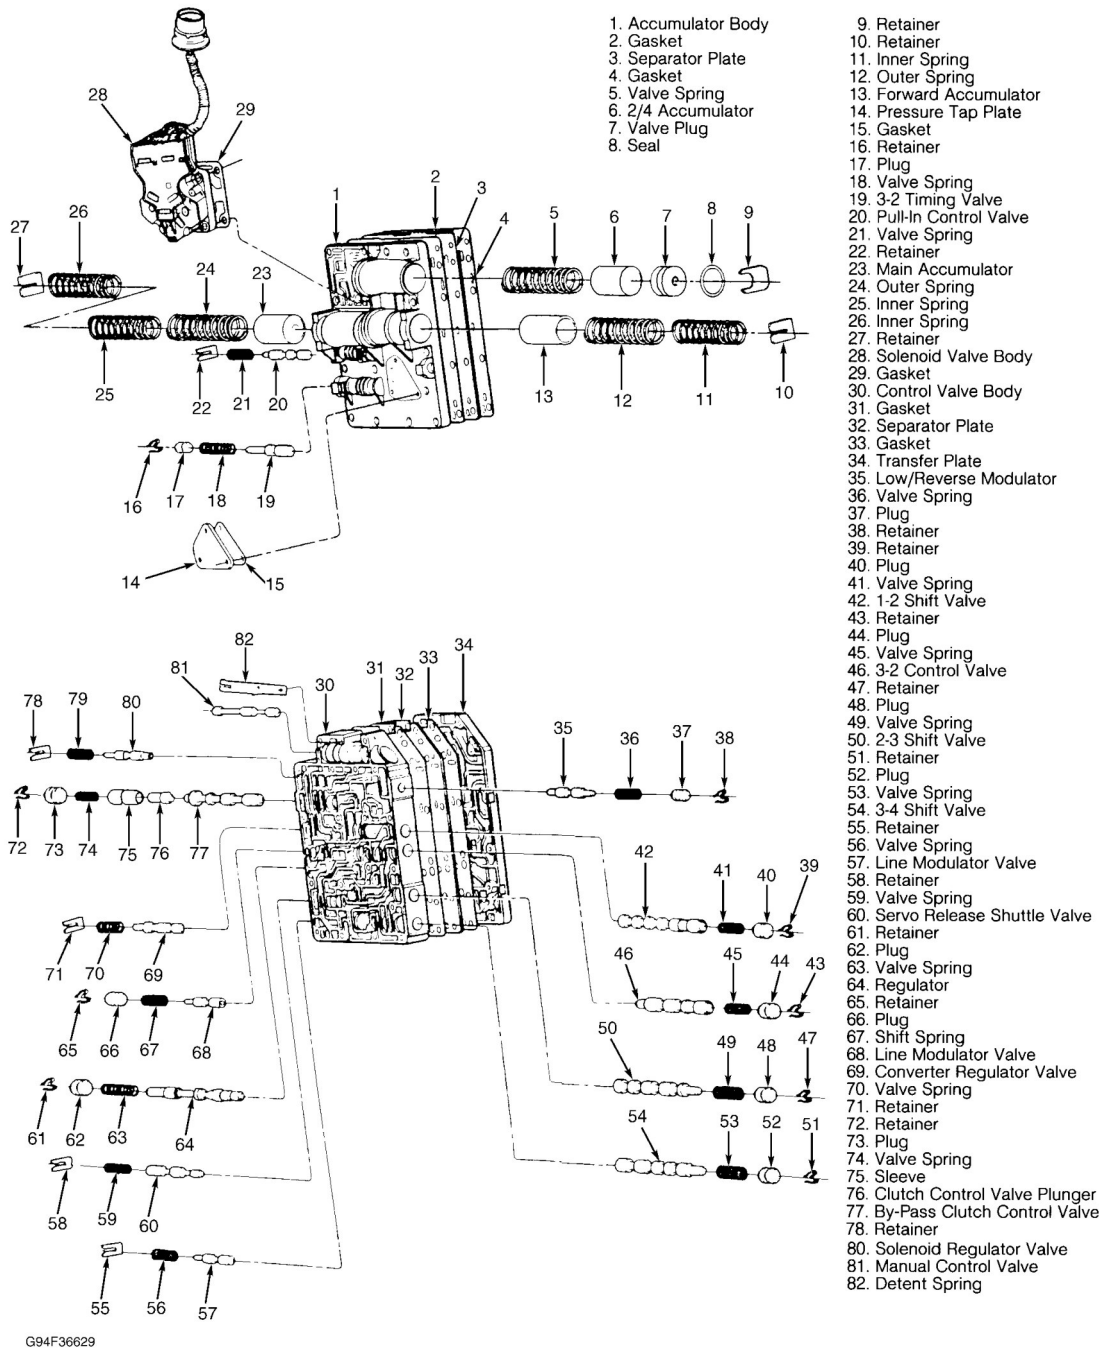

Fig. 23: Exploded View Of Valve Body Assembly
1. Remove manual valve. Unbolt and remove solenoid valve body and gasket. Remove pressure tap plate and gasket. Remove manual valve detent spring assembly and adjacent bolt. Remove 3 accumulator body-to-transfer plate bolts. Disassemble accumulator body assembly with separator plate and gaskets from main valve body. See **Fig. 23**.